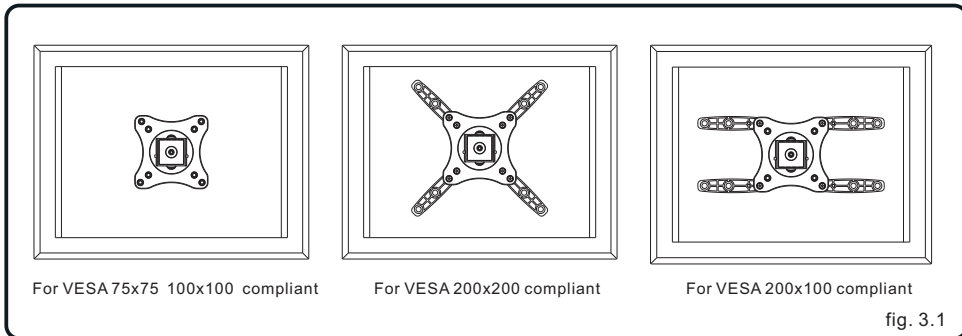

fig. 3.1
- Place screen face side down. Place the adapter bracket on the back of screen, align to holes, as shown in fig.3.1